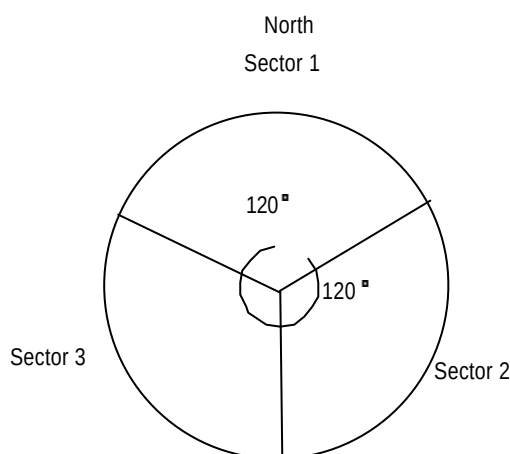

Figure 6-32 Relationship between the azimuth angle of the directional antenna and the sector
- 3) Adjust the azimuth angle of the antenna. Determine the azimuth angle according to the engineering design documents and determine it using the compass. Normally, sector 1 is in the north. Sector 2 lies in the clockwise 120° direction and sector 3 in the next clockwise 120° direction, as shown in Figure 6-32. By turning the antenna slightly, the personnel can adjust the azimuth angle till it satisfies the design index value. Usually, the error of the azimuth angel should be $\leq 5^\circ$;